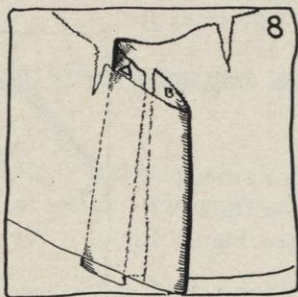

FIG. 8.
- (3) Turn the lower part of the lap *over* and up $\frac{1}{4}$ inch (see A, Figure 8).
- (4) Turn the upper part of the lap *under* and down $\frac{1}{4}$ inch (see B, Figure 8).